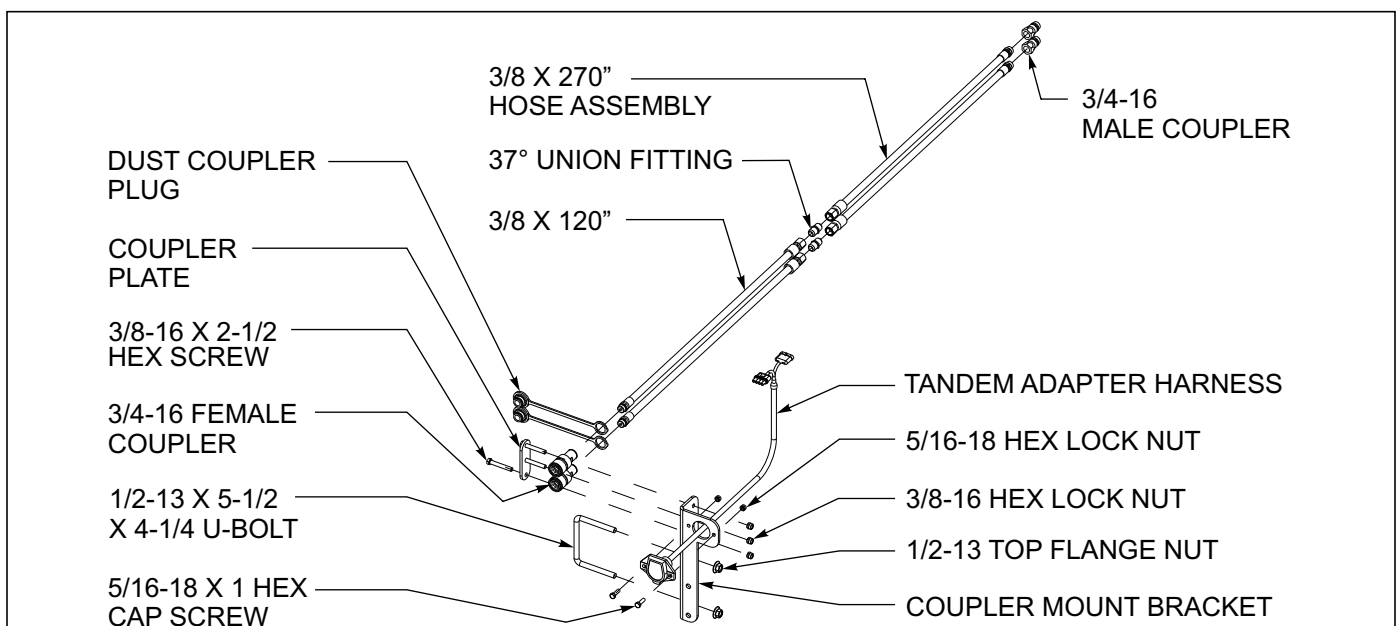

Figure 3-16: Rear Tow Hitch Hydraulic Installation
2. Attach coupler mount bracket to the left side of the rear tow hitch plate using 1/2-13 x 1-1/4 hex head cap screws and hex lock nuts (**See Figure 3-16.**)